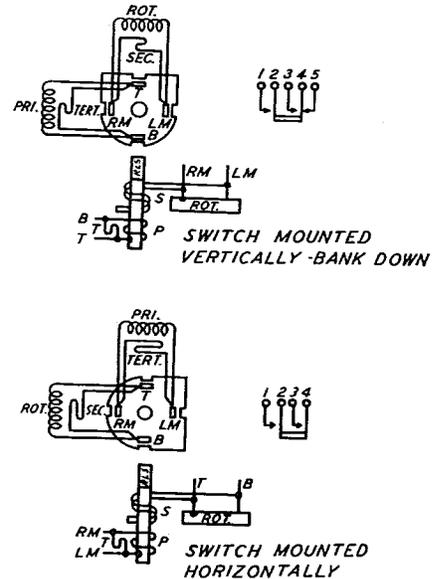

FIG. 65 - WINDING AND SPRING TERMINAL ARRANGEMENT AS VIEWED FROM THE REAR (TERMINAL SIDE)-204 TYPE SELECTORS
4.16 204 Type Selectors: The contact terminals are numbered consecutively from the mounting bracket outward. The winding terminals are designated as shown in Fig. 65.